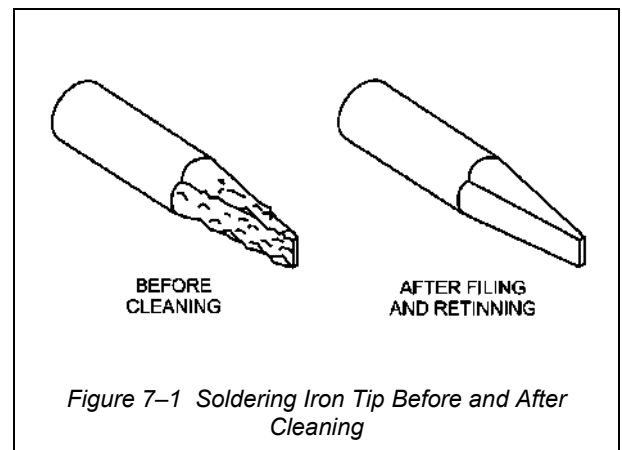

Figure 7-1 Soldering Iron Tip Before and After Cleaning
- a. With the iron shut off, file each working surface of the soldering iron tip with a double-cut mill file until it is smooth and a bright copper colour. (See Figure 7-1.) Remove copper fuzz from dressed edges with a file card.